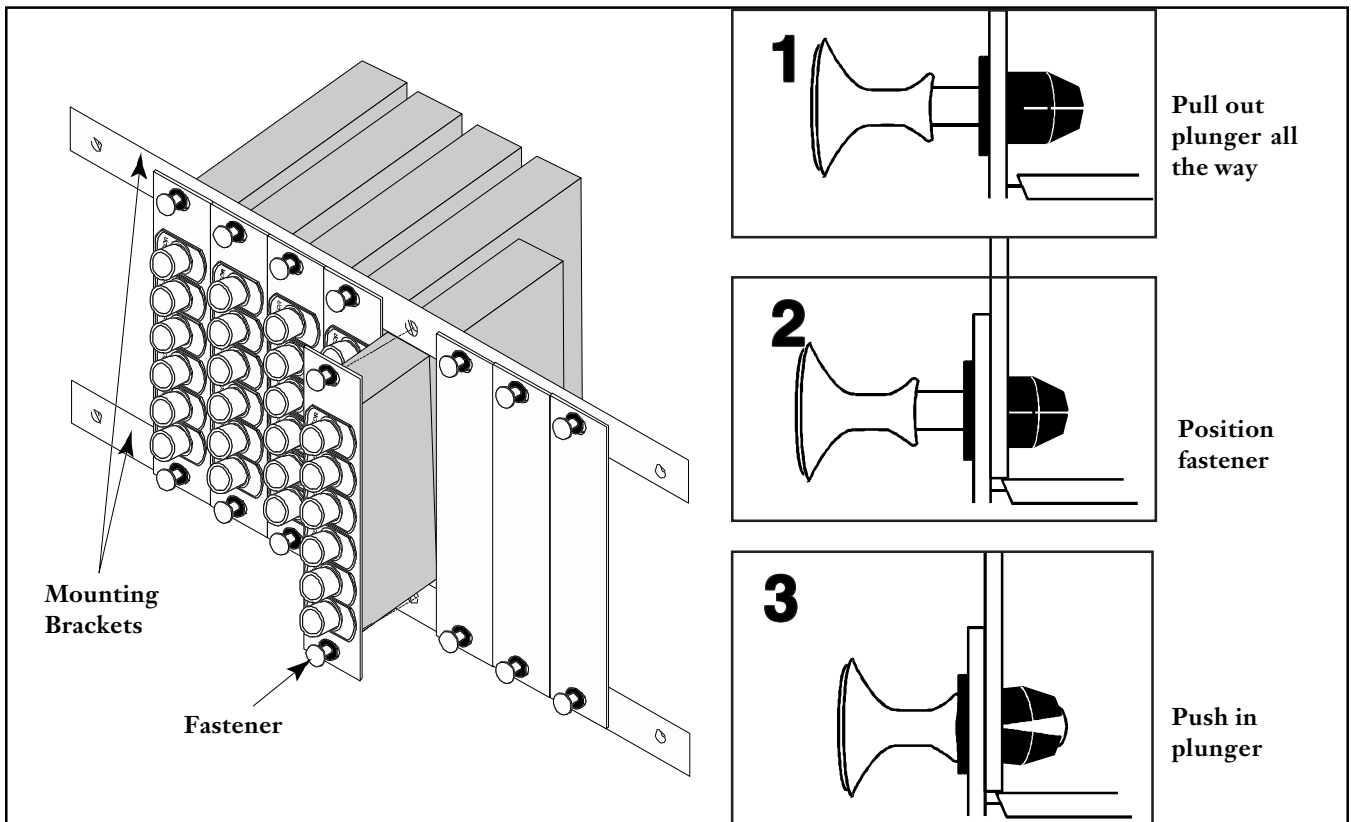

Figure 5
5.1 Remove a blank panel that may occupy the mounting position by pulling on its push-pull fasteners (Figure 5).
5.2 Carefully feed the pigtail fibers through the opening between the module/panel mounting brackets (Figure 5).
5.3 To secure the connector module or panel to the housing, locate the push-pull fasteners into the proper mounting bracket holes and push in all the fastener plungers until they lock into place (Figure 5).